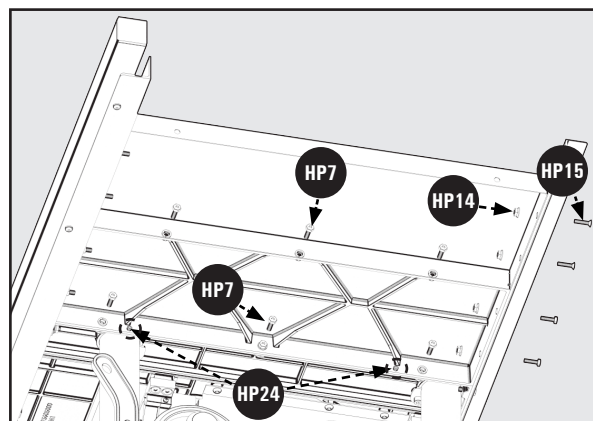

Figure 9
6. Turn the two wings fastened together over and fasten them to side of the saw table using three 5/16 18 x 7/8 inch hex head screws with Split Lock Washers (HP7). See Figure 9.
NOTE: There are four 5/16-18 Set Screws (HP24) for the cast iron extension wing for the 36-5100 T2. Two Set Screws for each cast iron Extension Wing. The set screws are used to adjust the level. See Figure 9.
NOTE: There are four 5/16-18 Set Screws (HP24) for the cast iron extension wings for the 36-5100 T2. Two Set Screws for each cast iron Extension Wing. The set screws are used to adjust the level. See Figure 9.